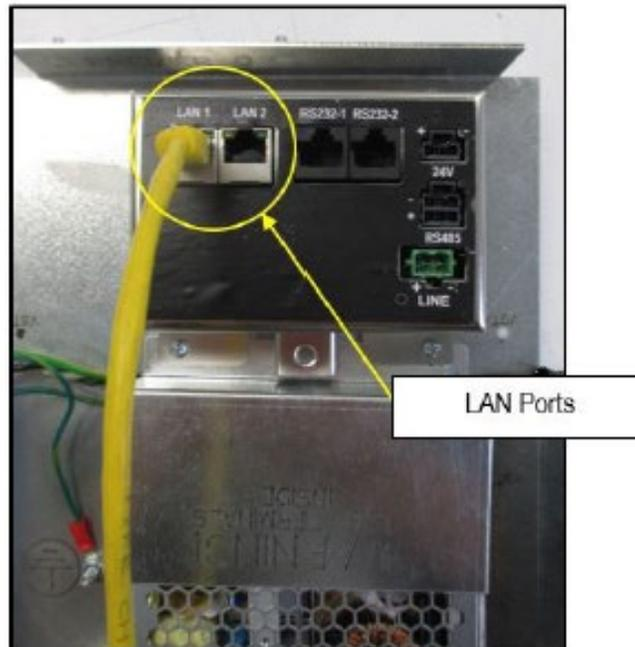

Figure 59
- 7) Unplug and label/mark the Yellow Cat5e Network Cable from the Invenco Link port labeled "LAN1" annotated in Figure 59 below.